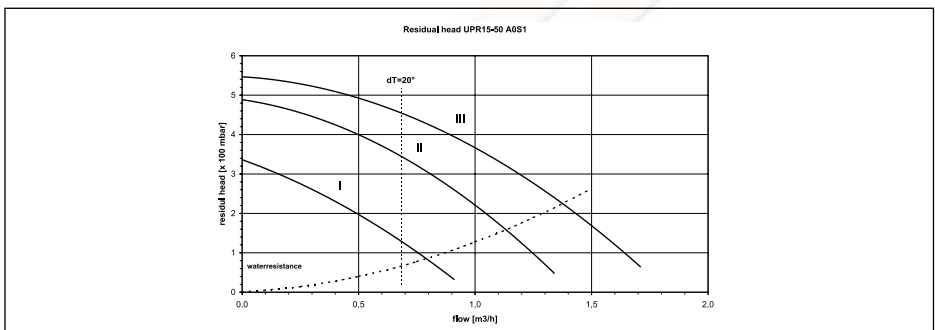

Fig. 13 Residual head Grundfos
The Remeha Selecta is equipped with a Grundfos UPR 15-50 A0S1 circulation pump. This pump has a manual switch to select one of the three speed positions (see Fig. 13). If boiler parameter L/18 is set to **0** (see Table 09, service level), but will be overridden by the boiler control to III when in DHW mode and in the HTG mode if the boiler parameter L/18 is set to **1** (see Table 09, service level):
- The residual head, is the head available for the installation, after deducting the boiler resistance, see Fig. 13.